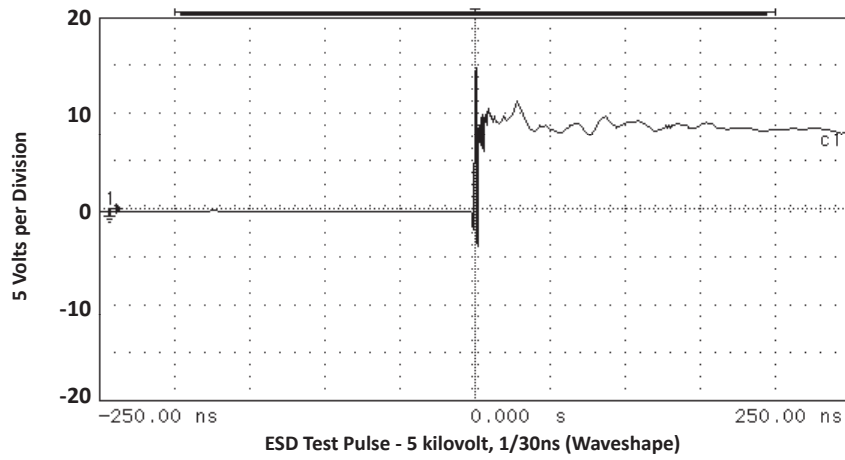

FIGURE 5
- As shown in Figure 5, REF 1 is connected to ground, REF 2 is connected to +V_{CC} and input applies to V_{CC} = 5V, V_{SIGN} = 30mV, F = 1MHz.